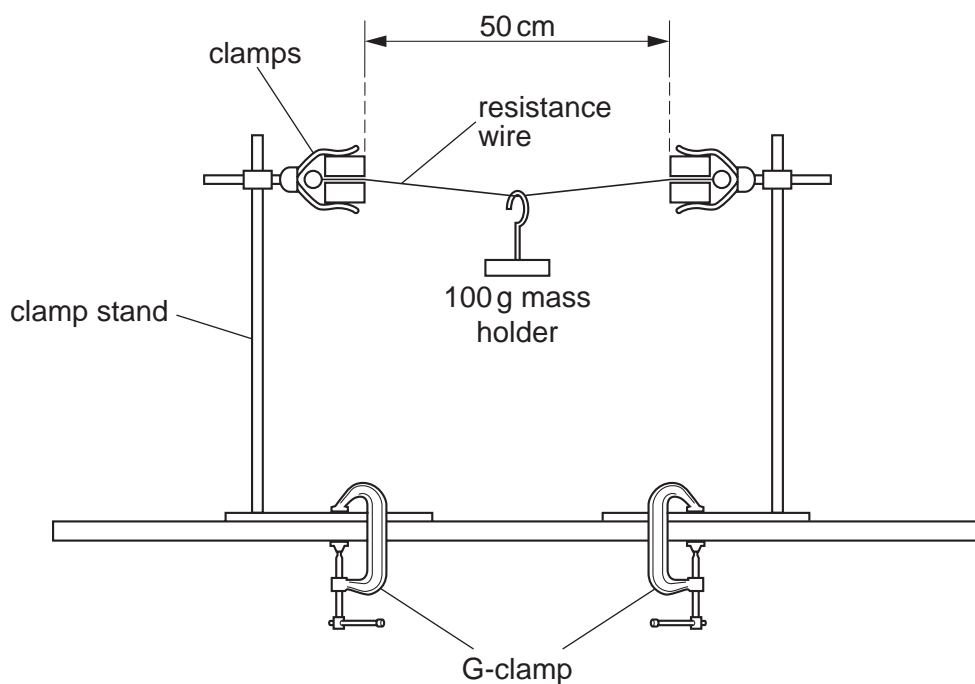

Fig. 2.1
- 2** In this experiment, you will investigate how the deflection at the centre of the loaded resistance wire of the arrangement shown in Fig. 2.1 depends on the current in the wire.